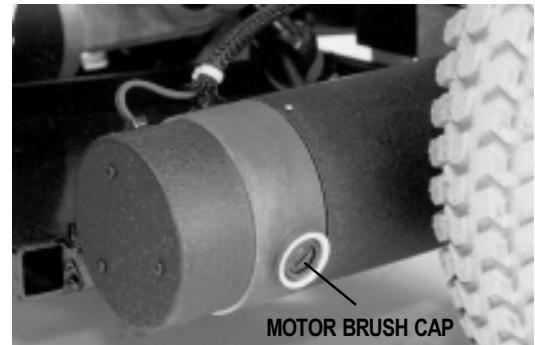

Figure 43. Motor
2. Unscrew the motor brush caps. See figure 43.